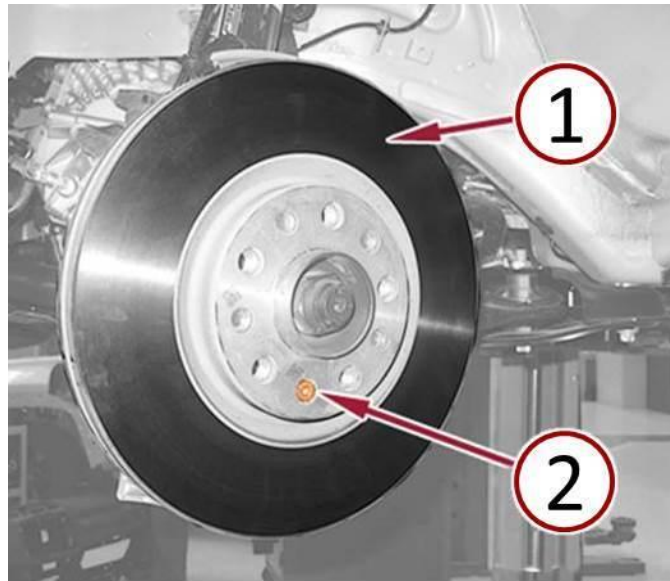

Fig. 6 Install Brake Rotor
13. Install the brake rotor (1) **ensuring that the brake rotor is aligned with the previously created position alignment mark** (Fig. 6).
14. Install the brake rotor retaining bolt (2) and tighten to 7 N·m (61 In. Lbs.) (Fig. 6).